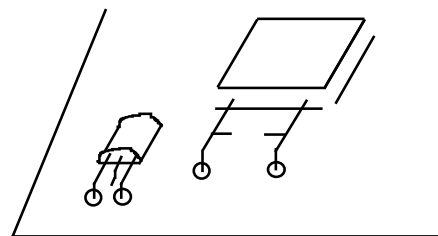

Figure 4
5. Install bottom side components, U8, L6, R8, and the crystal (Fig. 4).